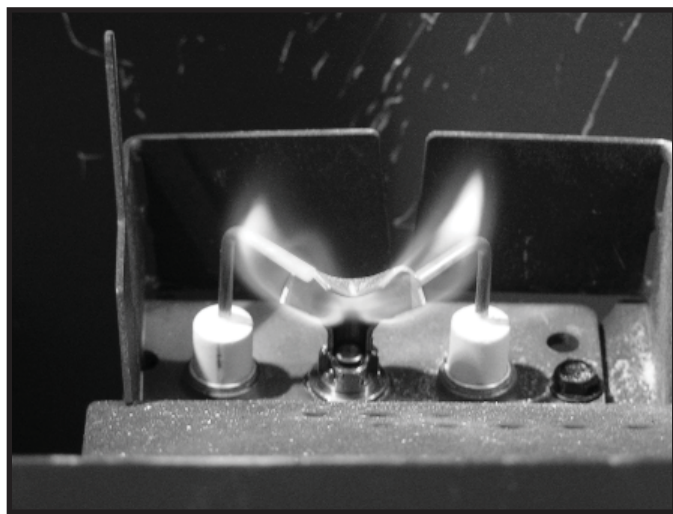

Figure 4.2 IPI Pilot Flame Pattern - Generic Pilot Bracket Shown
- Inspect pilot flame pattern and strength. See Figure 4.2 for proper pilot flame pattern. Clean or replace orifice spud as necessary.